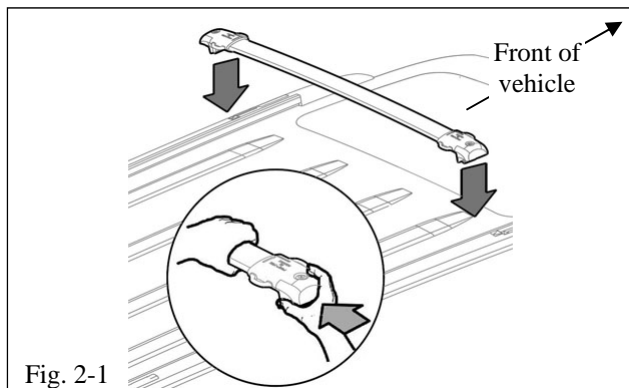

Fig. 2-1
- (a) Load the front cross bar near the front of the side rail (Fig. 2-1).
- (d) Compress the spring-loaded RH arm and lower onto the side rail (Fig. 2-1).